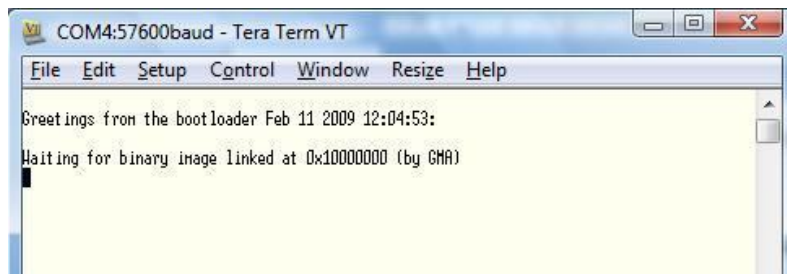

Figure 11 : Greetings from the boot loader
6. After you have pushed the PROM button, you should receive a 'greetings' message in your serial terminal program. (Figure 11).